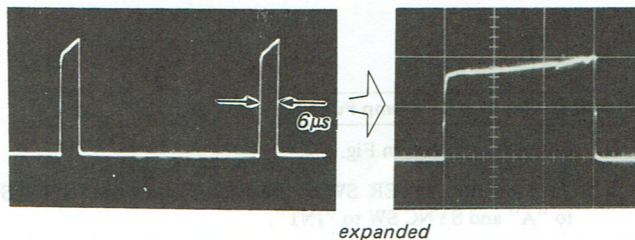

Fig. 5-2.
4. Adjust the pulse width to $6\mu s$ by turning RV2. (Fig. 5-2)